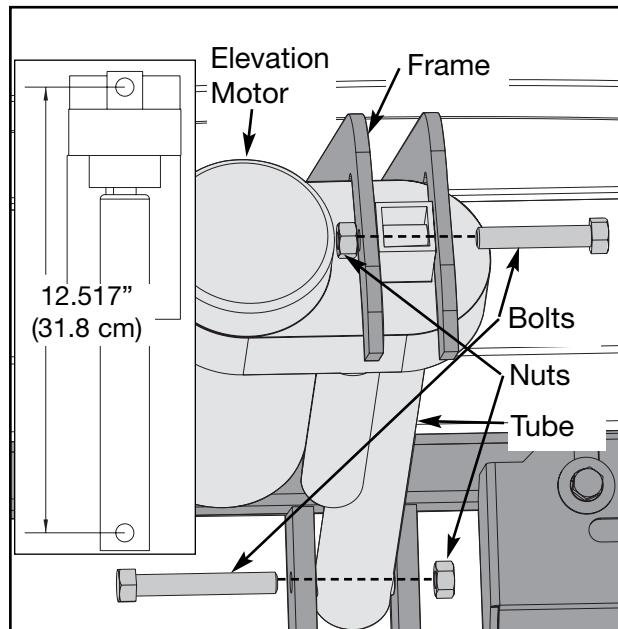

Figure 20
- B. Turn the tube with your fingers until it measures 12.517" (31.8 cm) from the center of the top hole to the center of the bottom hole. See Figure 20.
- A. Carefully place the elevation motor in position on the treadmill. See Figure 20.
- B. Slide both bolts into the slots and attached the hex nuts as shown in Figure 20.
- A. Connect the main power cord into the power outlet and turn the power switch on (I).
- E. Stop the treadmill and turn the main power switch in the front panel to the off (O) position.